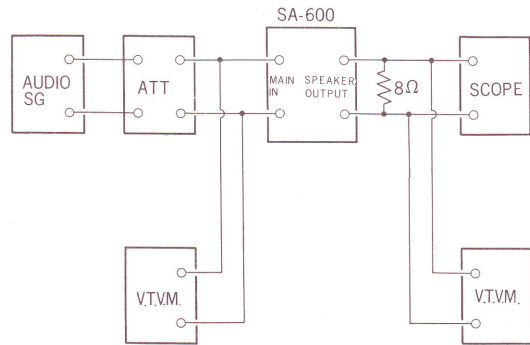

Fig. 1
- Connect the oscilloscope and V.T.V.M. to SPEAKER OUTPUT terminal as shown in Fig. 1.
- Connect the load resistor ($8\ \Omega$ 30W) in parallel to SPEAKER OUTPUT terminal as shown in Fig. 1.